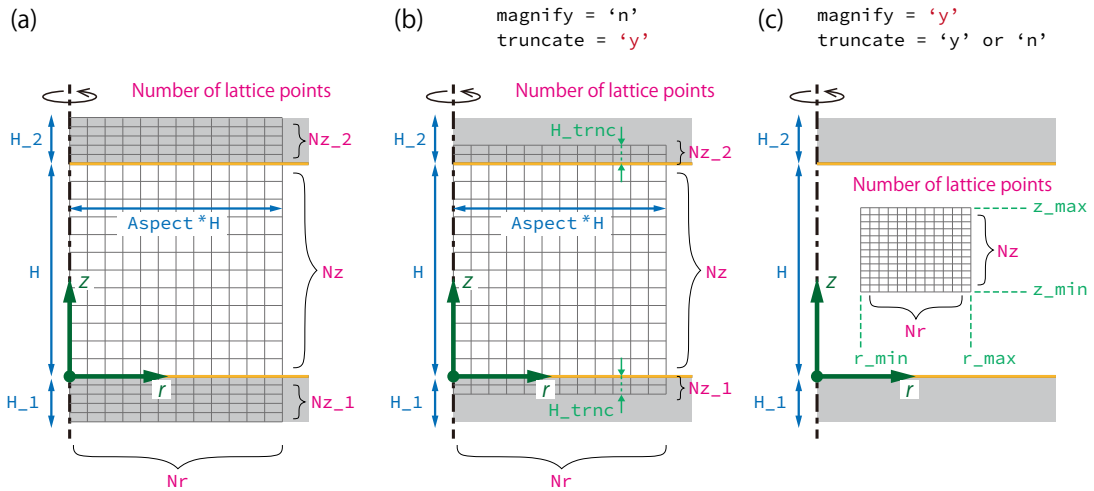

FIG. S3. Description of the computational parameters in the input file.
- For advanced options, see Sec. A below. In particular, to change the range of the view, **truncate** and **magnify** options together with Fig. S3 is useful.
- **truncate**: Use when omitting the display of solid parts away from the fluid part (see Fig. S3(b)).
- **magnify**: Use when zooming up a specified region in a fluid domain (see Fig. S3(c)).